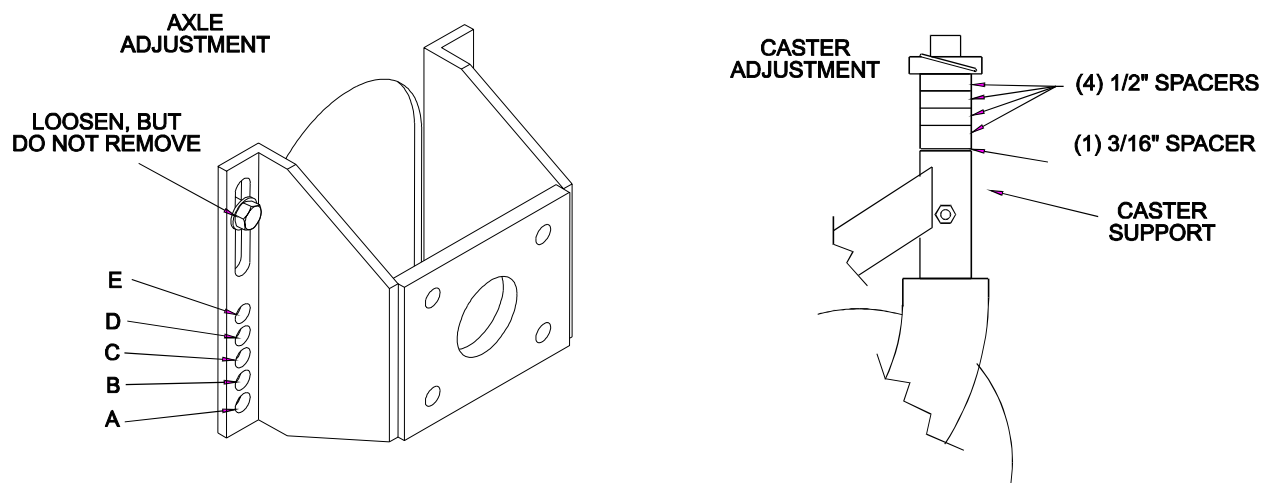

FIG. 8
Desired cutting height range can be obtained by adjusting the rear axle and placing caster spacers above or below the caster arm (See Figure 8).
- c) Loosen but do not remove the **top** two bolts on each hydraulic motor mounting bracket, **DO NOT** remove (See Figure 8).